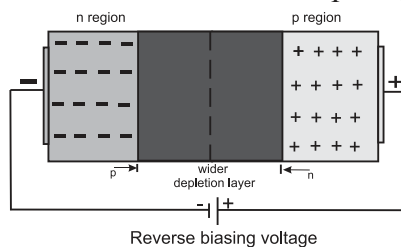

Fig. 14.25: Increase in width of depletion region.
b) Reverse biased: The positive terminal of the external voltage is connected to the cathode (n-side) and negative terminal to the anode (p-side) across the diode. In case of reverse bias the width of the depletion region increases and the p-n junction behaves like a high resistance Fig. 14.25. Practically no current flows through it with an increase in the reverse bias voltage. However, a very small **leakage current** does flow through the junction which is of the order of a few micro-amperes, (μA).